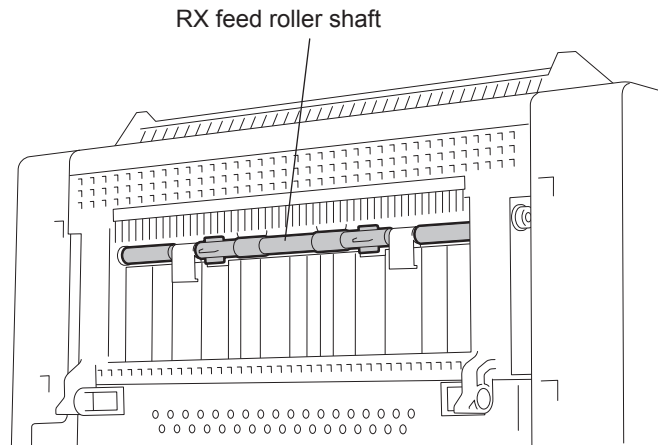

Fig. 10-17
- 11) RX feed roller shaft (P.10-12 "Fig. 10-17")